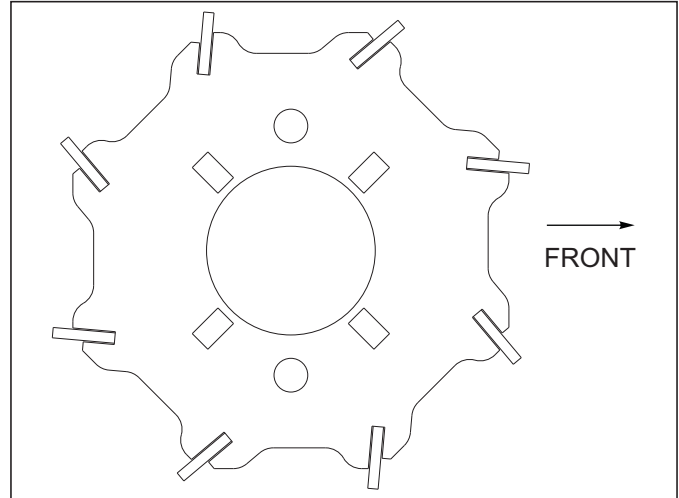

Figure 3-29: Flat Reel
4. Attach flat bar reels with angled blades as shown *See Figure 3-29*.